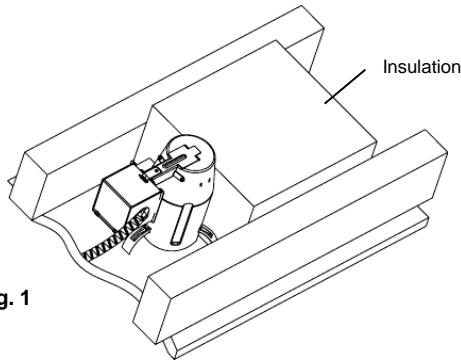

Fig. 1
NOTE: This fixture is an IC type fixture. It may come in direct contact with thermal insulation. It can be completely covered by thermal insulation, as shown below. In addition, any part of the fixture may come in direct contact with any combustible material, such as a ceiling joist or floor board. (FIG. 1)
2. Clear out any insulation necessary to maintain the 3” (7,6 cm) spacing specified in the “**CAUTION**” section found in the beginning of these instructions. (See Fig. 1)